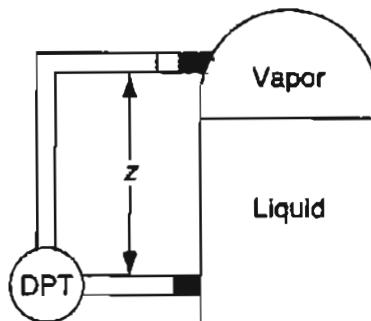

Figure P5.27
- ?*5.27 A differential pressure transmitter (DPT) can be used to sense the liquid level in a tank. See Figure P5.27.